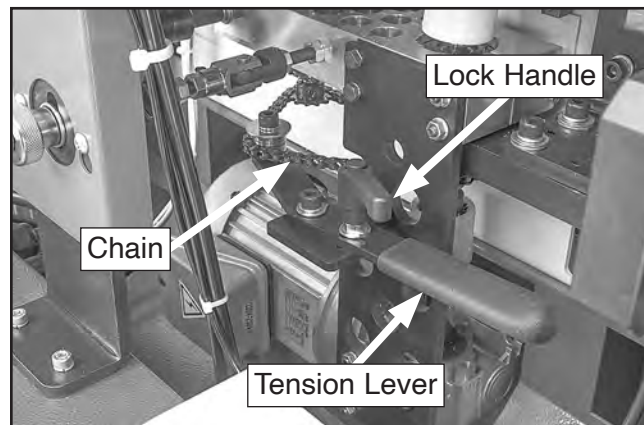

Figure 96. Location of glue pot chain tension lever and lock handle.
2. Install chain and push tension lever (see **Figure 96**) in to tension, then tighten tension lock handle.